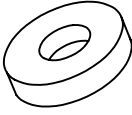

FIG. 1
- 1. WEATHER WARNING ! DO NOT ERECT YOUR BUILDING ON A WINDY DAY. ANY BUILDING LEFT PARTIALLY CONSTRUCTED MAY BE SERIOUSLY DAMAGED (FIG.1).**
- 3. ALL ASSEMBLY OPERATIONS MUST TAKE PLACE ON A COMPLETELY LEVEL SURFACE (FIG. 1)**
- 1. TEMPÊTE DE VENT: NE JAMAIS MONTER VOTRE ABRI PAR GRAND VENT. NE PAS LAISSER UN ABRI PARTIELLEMENT MONTÉ, LES PIÈCES POUVANT ÊTRE ENDOMMAGÉES (FIG. 1).**
- 3. TOUTES LES OPÉRATIONS DE MONTAGE DOIVENT ÊTRE RÉALISÉES SUR UNE SURFACE PLANE (fig 1).**